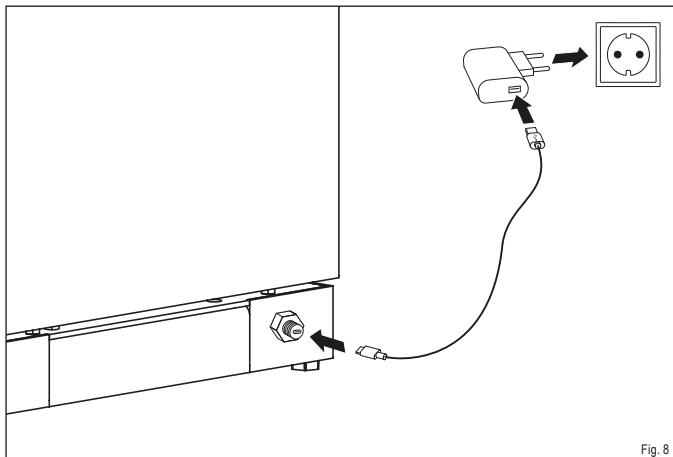

Fig. 8
- ▶ Connect the USB-C cable to the socket on the stove and the mains plug (Figure 8).
- ▶ Connect the mains plug to the mains (Figure 8).